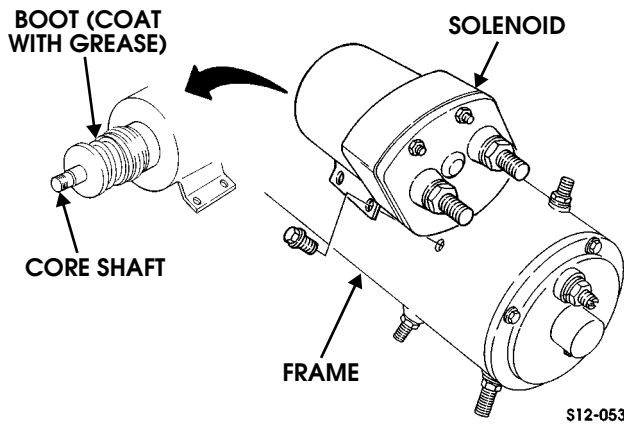

Figure 12-30: Solenoid Boot Installation
25. Coat ribbed area of core shaft boot with lithium grease (Figure 12-30).